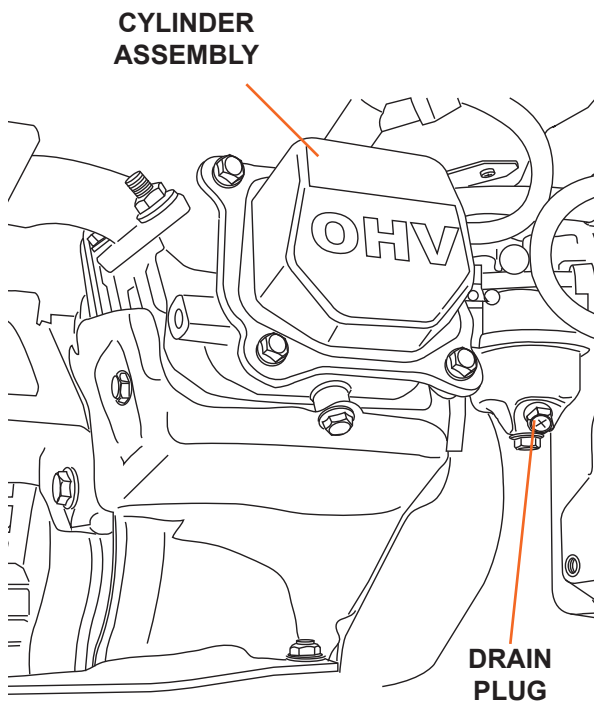

Figure 26
4. Drain the carburetor (see Figure 26).